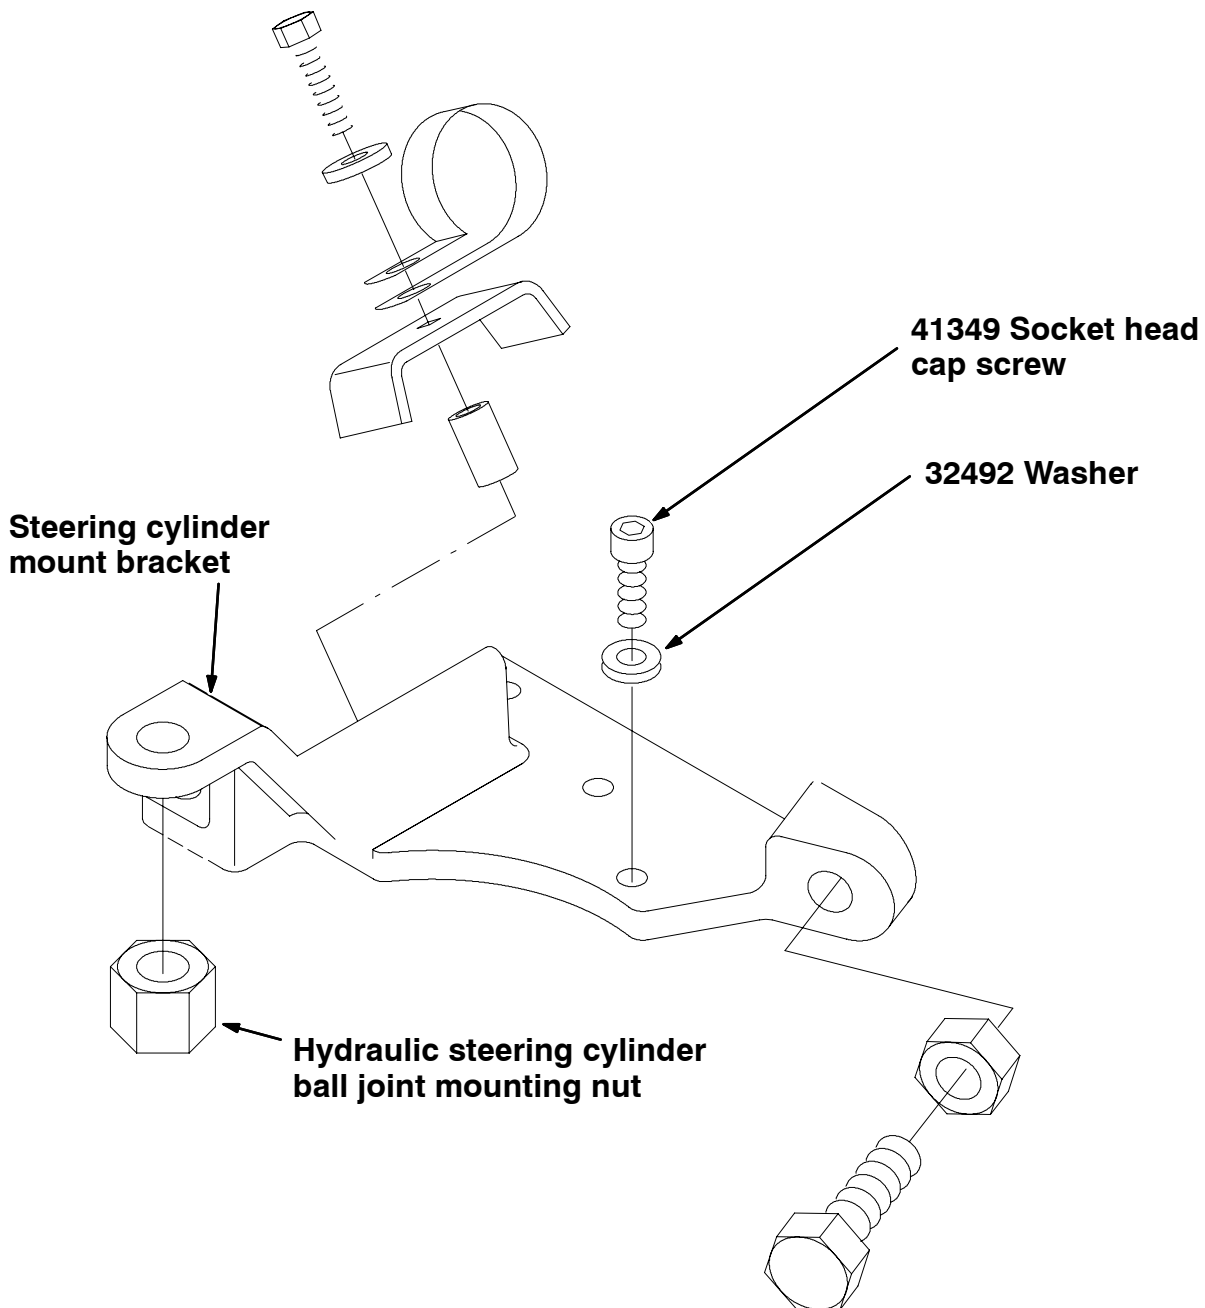

FIG. 1 - Steering Cylinder Bracket
(Refer to Figure 1)
(Refer to Fig. 1)
7. Apply red locktite 271 (part # 19857) to the tapped holes and install the socket head cap screws. The proper torque is 46-60 ft lb (63-81 Nm). (Refer to Fig. 1)